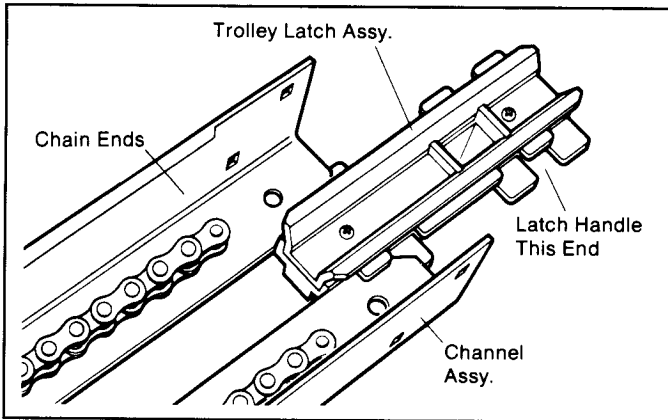

Figure 1. Trolley Latch Installation
See Figure 1, Step 1, Page 5.
Step 1: Remove trolley latch assembly from shipping position and slide over the channel, flanges in the proper orientation, as shown in Figure 1.